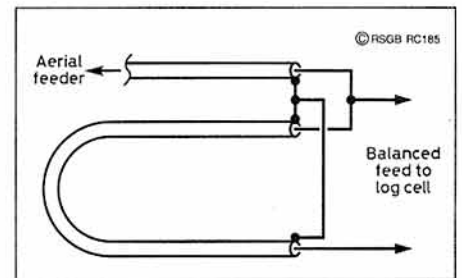

Fig 3: 4 to 1 coaxial balun, connections.
Photo 4. All outer braids will be soldered together but not earthed to the boom; see step 10 below and Fig 3.
10. Make the 4:1 coaxial balun from exactly 55.5in (1.41m) of UR47 coax. The connections are as shown in Fig 3 and Photo 4 and Photo 5 of the L4 connecting box. The balun is coiled up and strapped to the boom. The coax feed is via a UHF connector with lightning arrester